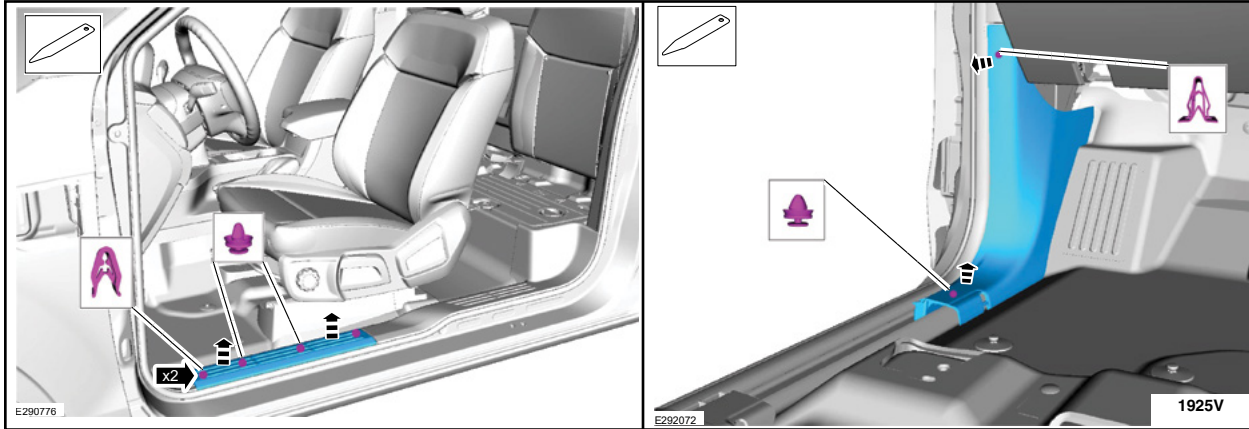

FIGURE 23
24. Release the clips and remove the front door scuff plate trim panel and cowl side trim panel on both sides of the vehicle. See Figure 23.